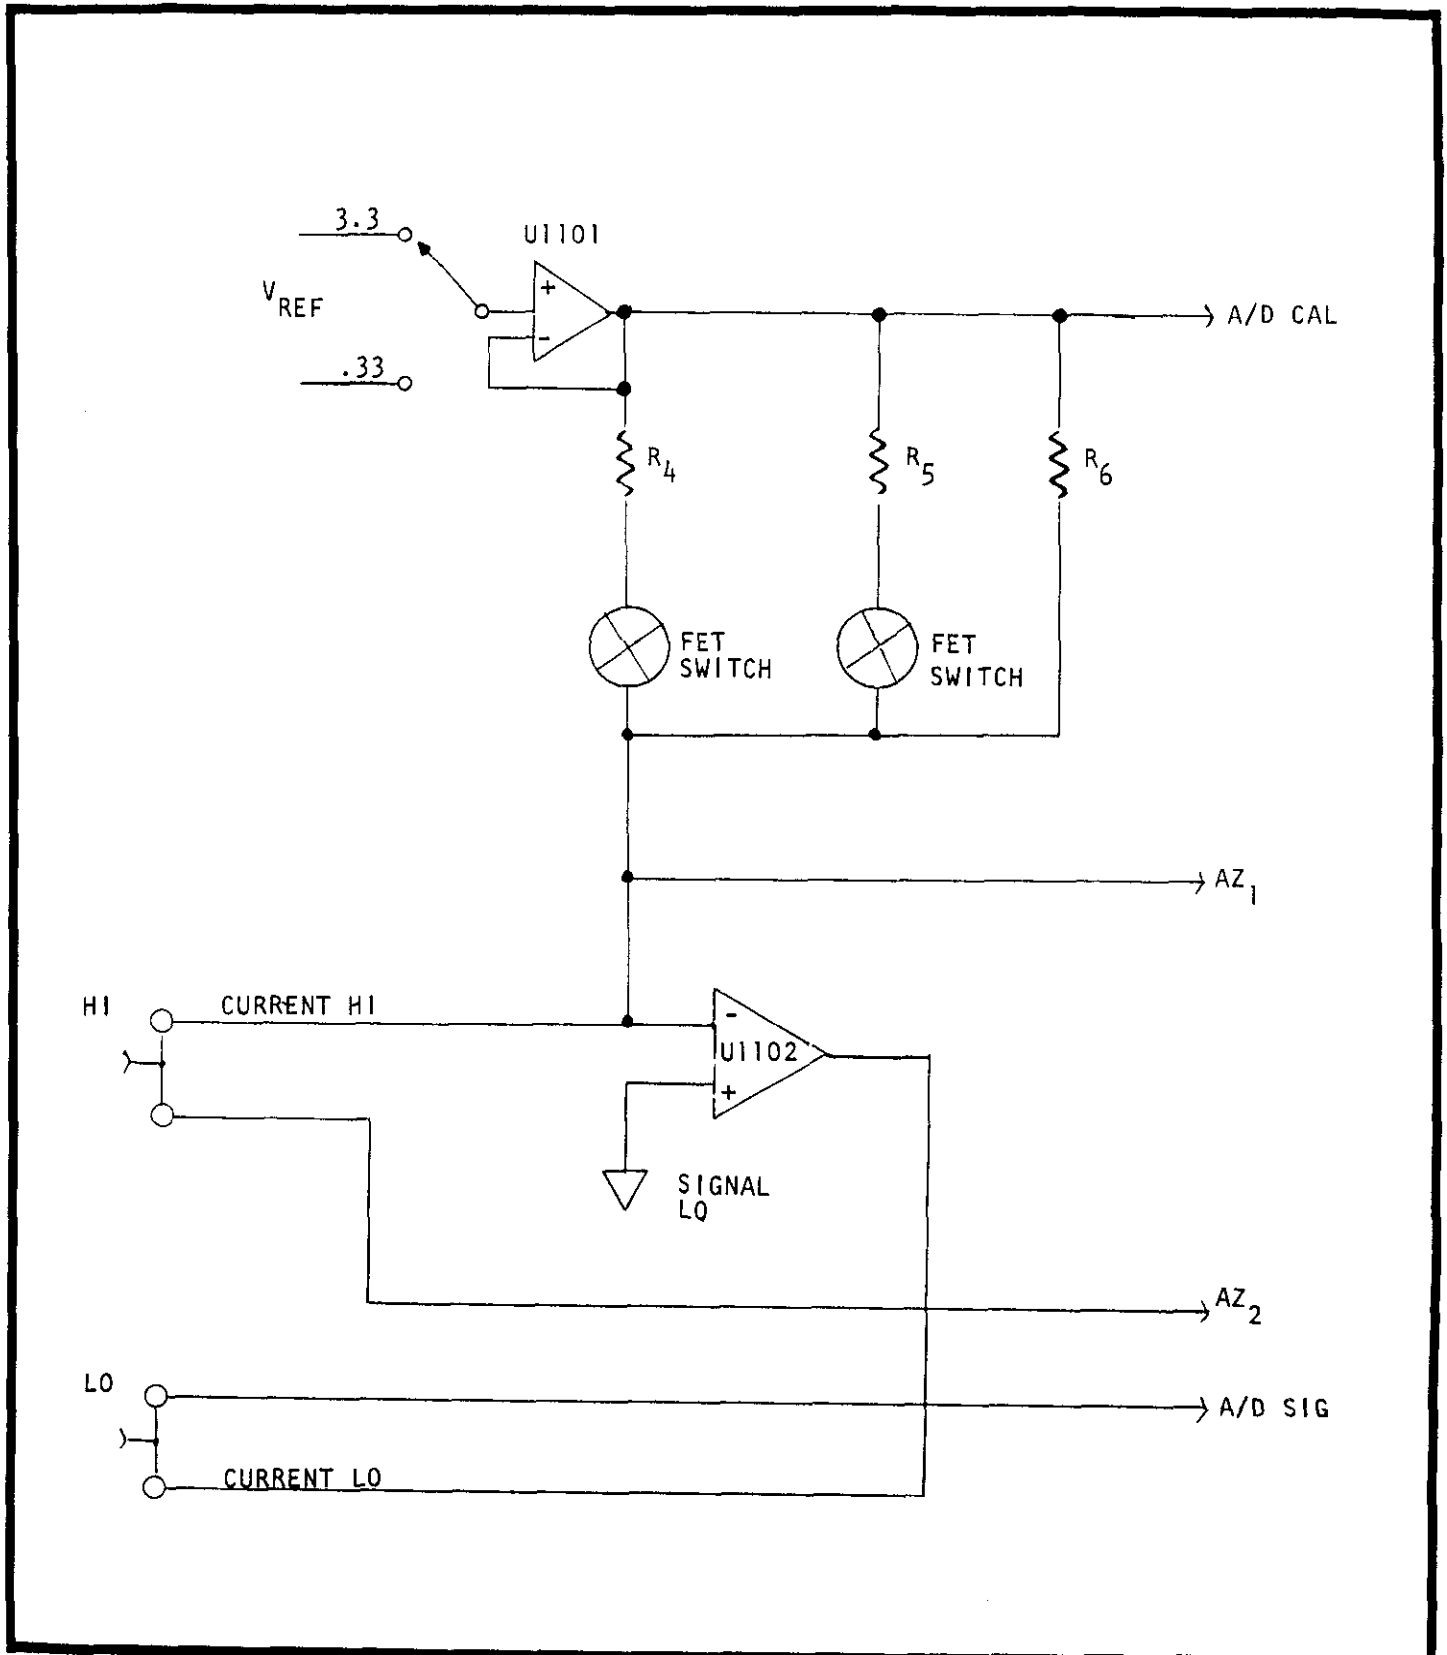

FIGURE 26. Detailed Diagram of Model 1744 Ohms Option.
1. A more detailed diagram of the ohms converter is shown in Figure 26. The measurement scheme is based on a "pseudo four-terminal" method. The four-terminal scheme is made possible by the four modes of operation of the A/D converter: AUTO ZERO 1 (AZ1), AUTO CALIBRATE (ACAL), AUTO ZERO 2 (AZ2), and SIGNAL INTEGRATE. AZ1 input is measured for 40 ms and this zero level is stored. During ACAL the A/D reference calibration voltage is measured for 40 ms. The A/D calibrates itself to the difference between A/D reference calibration and AZ1. Thus, it is calibrated to the voltage across R . Since R is a fixed, stable resistor, the value of I_R is now known. Since I_R also flows through R_x the calibration is fixed. AZ2 is measured for 40 ms. This is defined as the zero level for signal measurement and is stored in the A/D. The A/D measures the input at the bottom of R_x for 200 ms. The A/D thus measures the difference between signal input and AZ2 which is the voltage across R_x . This represents the value of R_x and is displayed after appropriate scaling. The measurement is essentially a ratio measurement between the voltage across R_x and the voltage across R . Notice that the voltage at the top of R_x is essentially at signal low of the instrument (± 0.102 offset and lead resistance drop) and the voltage at the bottom of R_x is negative. Thus, the HI terminal is guarded and relatively fast response is achieved at high resistance values.
4. Resistors R1102, R1101, and the "on" resistance of Q1101 make up what is called "R4" in Figure 26. Resistors R1103, R1105, and the "on" resistance of Q1102 make up what is called "R5" in Figure 26. Resistors R1104 and R1107 make up what is called "R6" in Figure 26. Notice that RREF is the parallel combination of R6 and R4 or R5 if they are switched into the circuit.
6. The diode CR1102 from the junction of R1112 and R1113 limits the amount of power delivered to them and the current injected to the +15V supply under overload conditions. R1112 and R1113 determine open circuit voltage at the input terminals. The diode CR1103 in the collector of Q1107 is likewise for overload protection and keeps the base-collector junction of Q1107 from ever being forward biased, as this could cause too much current to be drawn through R1114 and R1115. Q1110, CR1106 and Q1111 protect U1102 during overload as seen in Figure 26.